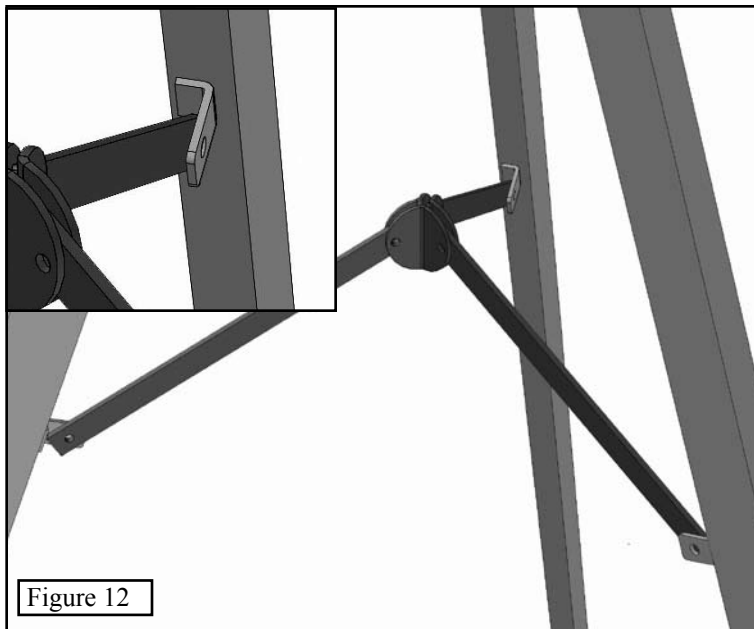

Figure 12
Step 2. Position the Center Support Assembly as shown in Figure 12. The Support Assembly will bolt to the inside of the L-Brackets and sit against the short shank bushings. Secure each joint with one 3/4" bolt and lock nut. Do not overtighten as this joint is designed to pivot.